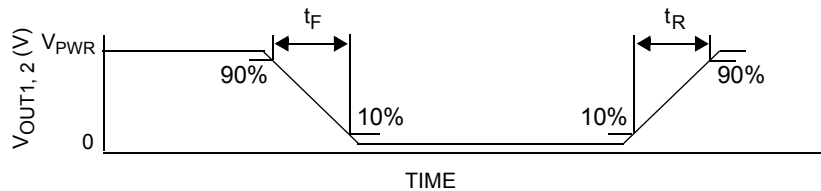

Figure 6. Output Switching Time
27. Rise Time is from the 10% to the 90% level and Fall Time is from the 90% to the 10% level of the output signal with $V_{PWR} = 14\text{ V}$, $R_{\text{LOAD}} = 3.0\text{ ohm}$. See Figure 6, page 10.